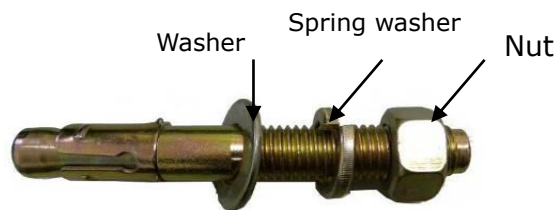

Fig. 34
1. Prepare the anchor bolts (See Fig. 34).